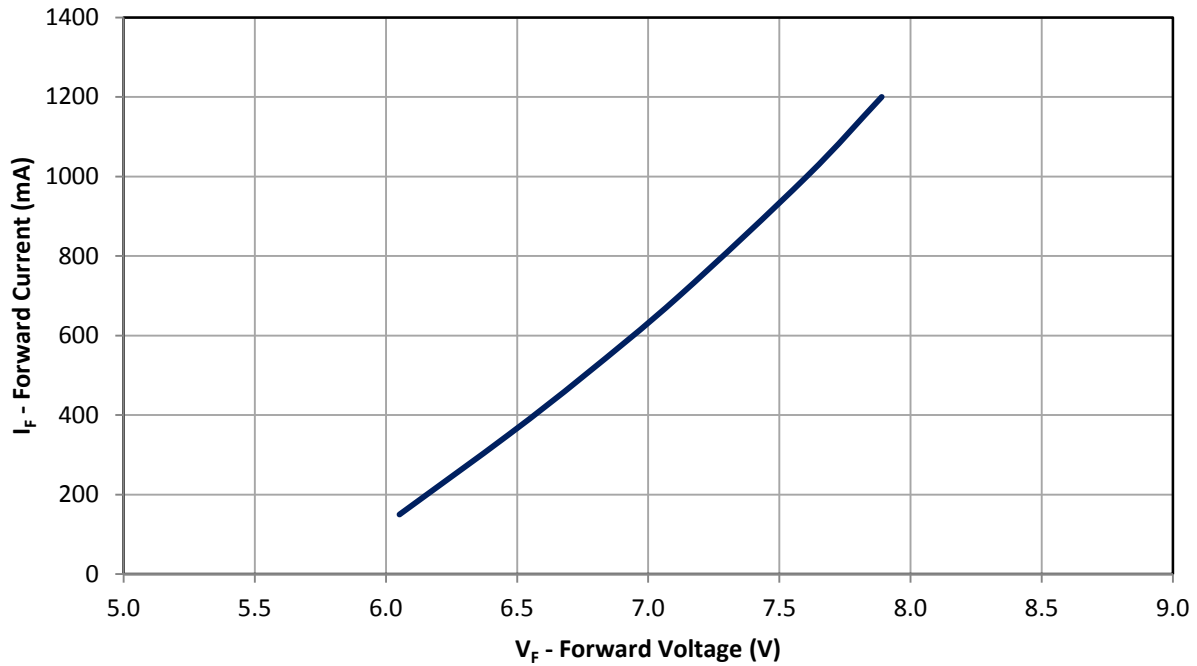

Figure 10: Typical forward current vs. forward voltage @  $T_c = 25^\circ\text{C}$ .
- Maximum DC forward current (per die) is determined by the overall thermal resistance and ambient temperature. Follow the curves in Figure 10 for current derating.